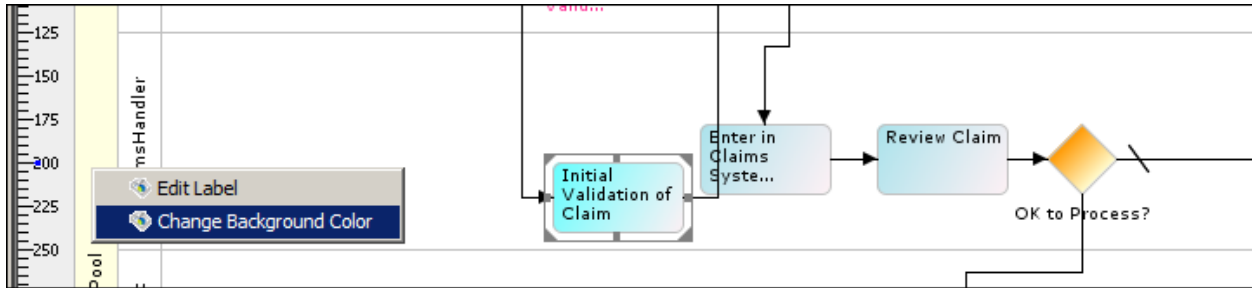

Figure 46: Change Background Color
1. Right-click the Pool and select **Change Background Color** option (see Figure 46).